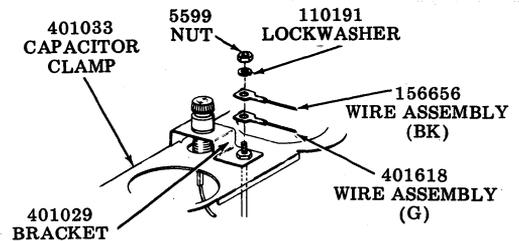

Fig. 27
- (a) Remove the two hex nuts which hold the fuse assembly and capacitor clamp together (Fig. 27). Remove the slate and black wires from beneath the fuse assembly and lift off the fuse assembly.